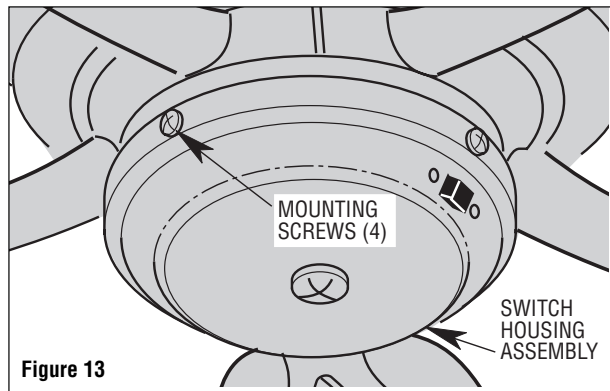

Figure 13
14. Position the switch housing assembly on the switch housing plate and align the holes in the switch housing assembly with the holes in the plate. Secure the switch housing assembly by reinstalling the four screws removed previously (Figure 13).